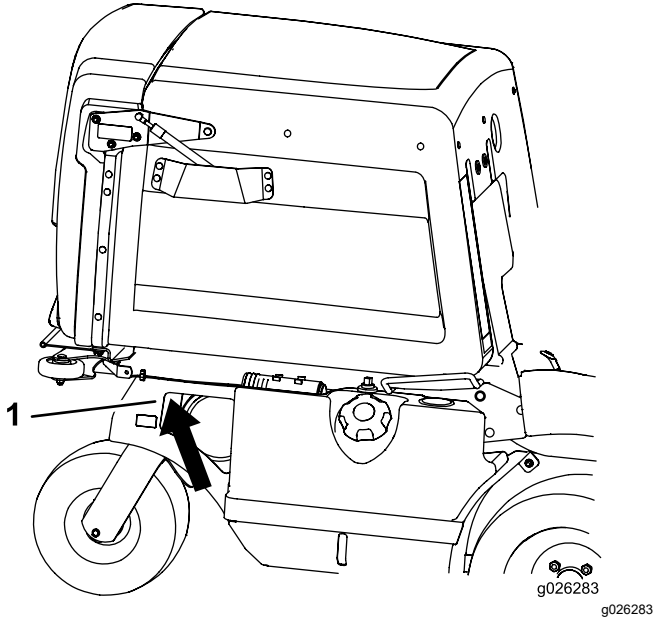
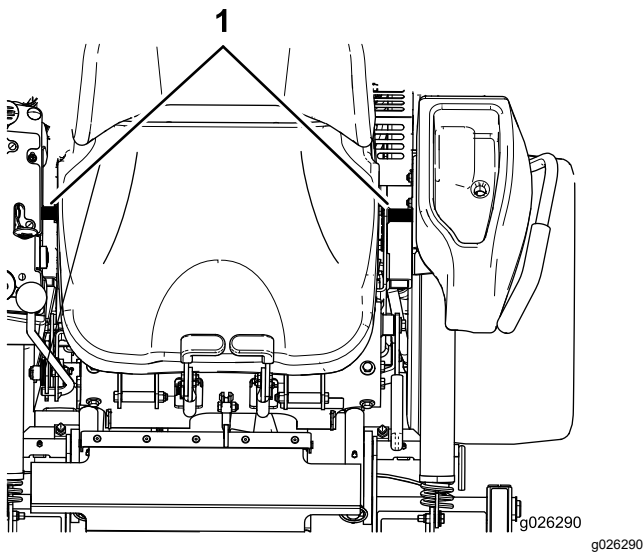

Figure 9
Figure 12
4. Using the hoist, lift the machine at the location shown in Figure 9.
12. Place the hoist hooks on each side of the seat as shown in Figure 12.
16. Using the hoist, lift the machine at the locations shown in Figure 9 and Figure 12.